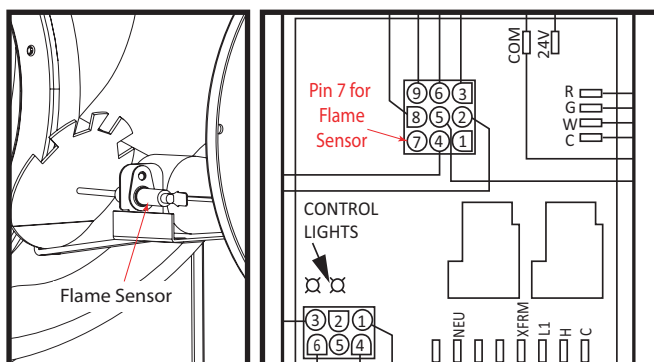

Figure 3. Flame Sensor Wiring for UTEC Board
7. This igniter cannot be used as a flame sensor. If your furnace has a UTEC control board which doesn't have a flame sensor, please use the flame sensor provided in this kit, and connect the wire to the control board plug P1, on pin 7 which is not being used (Figure 3).